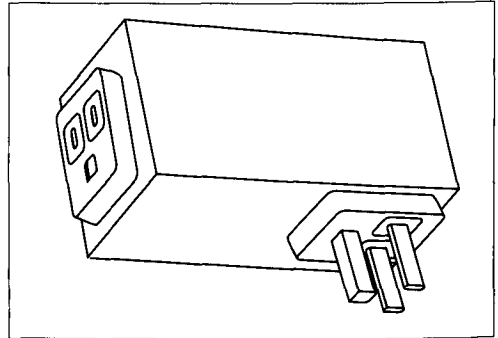

Figure 1.3 Commercial plug-in ac line filter
- 2 Install a commercially available ac line filter (see Figures 1.3 and 1.4).
0.01 microfarad capacitors to the brushes. If there is not enough space, a line filter can be installed (see Figure 1.3).